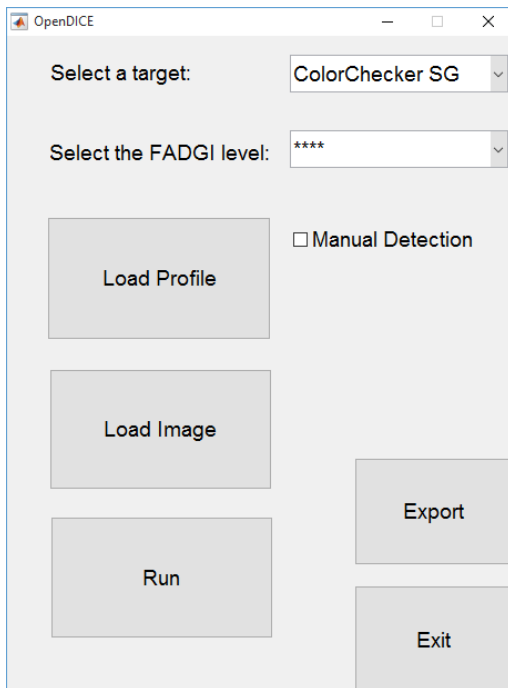

Figure 1. OpenDICE user interface
1. In the interface (Figure 1), the default setting for the target is ColorChecker SG. User may change it to DICE.